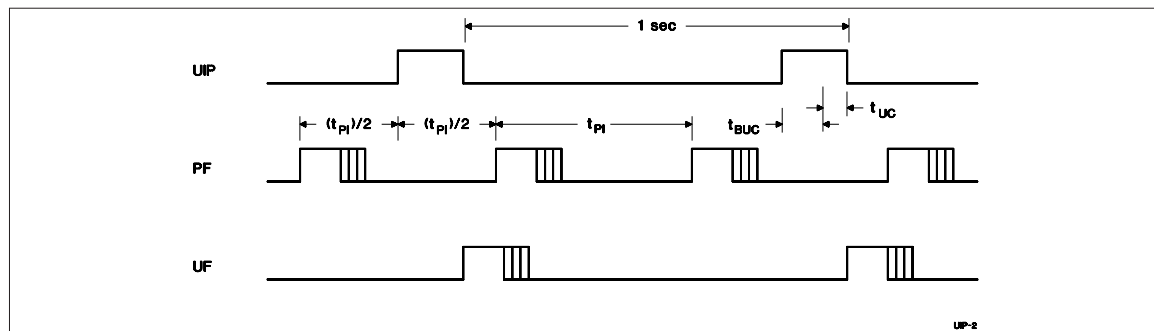

Figure 3. Update-Ended/Periodic Interrupt Relationship
- Enable the update interrupt event to generate interrupt requests at the end of the update cycle. The interrupt handler has a maximum of 999ms to access the clock bytes before the next update cycle begins (see Figure 3).
- Poll the update-in-progress bit (UIP) in register A. If UIP = 0, the polling routine has a minimum of t_{BUC} time to access the clock bytes (see Figure 3).
- Use the periodic interrupt event to generate interrupt requests every t_{PI} time, such that UIP = 1 always occurs between the periodic interrupts. The interrupt handler has a minimum of $t_{PI}/2 + t_{BUC}$ time to access the clock bytes (see Figure 3).